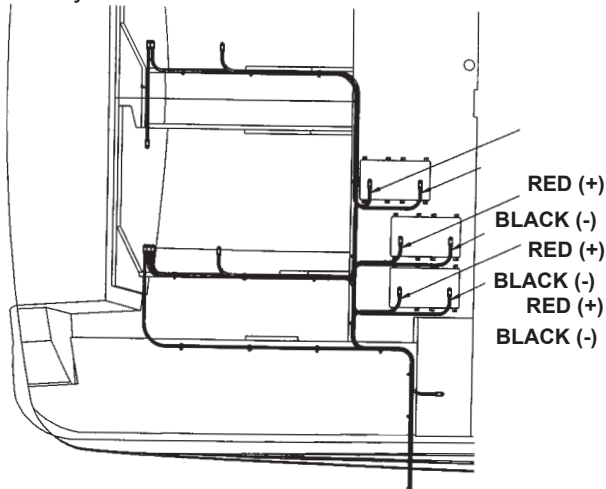

Figure H3: Triple Battery System
1. Connect each of the red (positive) battery cables leading from the battery selector switch to the positive (+) terminal on each of the three batteries. Refer to Figure H3.